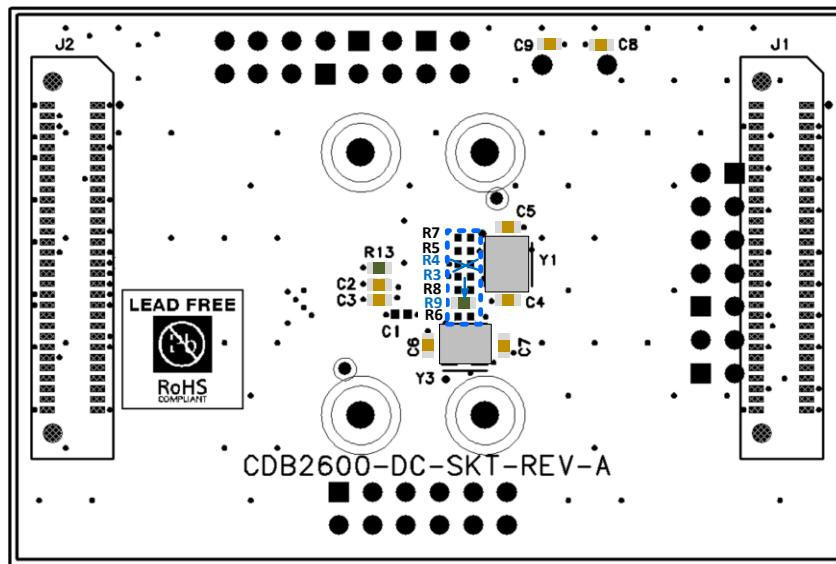

Figure 25 Daughter Card with External Reference Clock Option (R9)
- The REF_CLK can be provided from the Hazelburn motherboard (CDB-CLOCKING-MB). This can be either an external signal via connector P9, or the 12 MHz crystal oscillator on the motherboard. See Section 1.3.1.1 of the Hazelburn user guide (CDB-CLOCKING_DS1386DB1.pdf) to configure the motherboard for the required option. The daughter card configuration is R9 populated (0 Ω); R3, R4, R5, R6, R7, R8 non-populated. The configuration is illustrated in Figure 25.